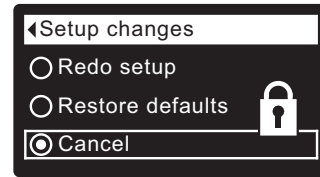

FIG. 86
8. Press the RIGHT (▶) button. A flashing padlock icon will appear, as shown in Figure 86.
- 1-7. Go to the **Setup changes** screen (Figure 86) by following Steps 1-7 at left.